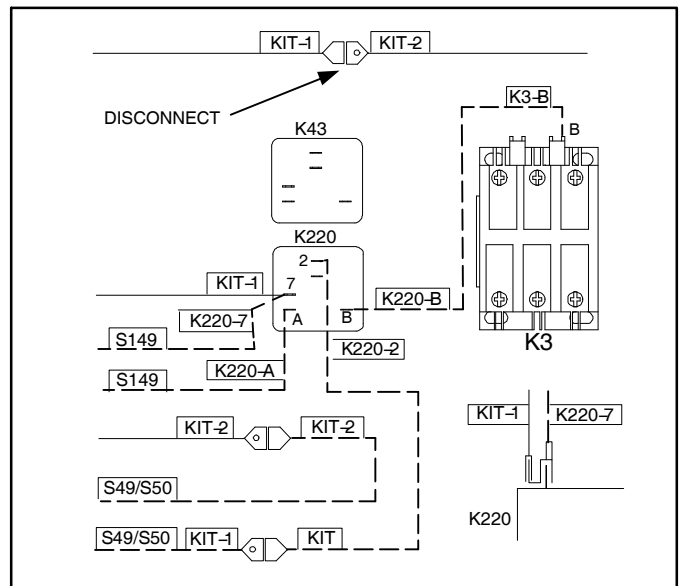

Figure 6. Installing both Freezestat and Float Switch Kits
- 4.2. Make wiring connections as illustrated in figure 6 using harnesses provided in kits.
- 4.2.2. Connect factory wire marked **KIT-1** to float switch kit harness wire marked **K220-7** receptacle / tab combination that was just connected to the relay in step 4.2.1. (see figure 6).
4.2.5. Make all other wiring connections as illustrated in figure 6 and per wire markings.